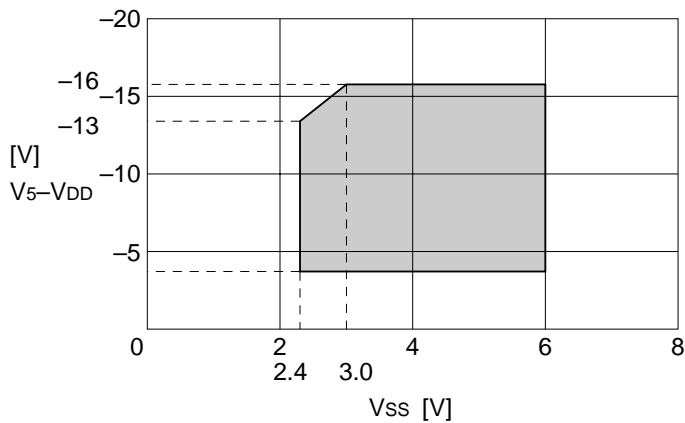

Figure 11
- \*2. The operating voltage range of the VSS and V5 systems (see Figure 11). The operating voltage range is applied if an external power supply is used.
- \*8. The resistance when the 0.1-volt voltage is applied between the “On” output terminal and each power terminal (V1, V2, V3 or V4). It must be within the operating voltage (2).